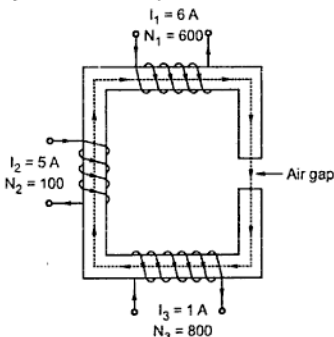

Fig. 3.71
►►► **Example 3.12 :** A magnetic circuit is excited by three coils as shown in the Fig. 3.71. Calculate the flux produced in the air gap. The material used for core is iron having relative permeability of 800. The length of the magnetic circuit is 100 cm with an air gap of 2 mm in it. The core has uniform cross-section of 6 cm^2 .